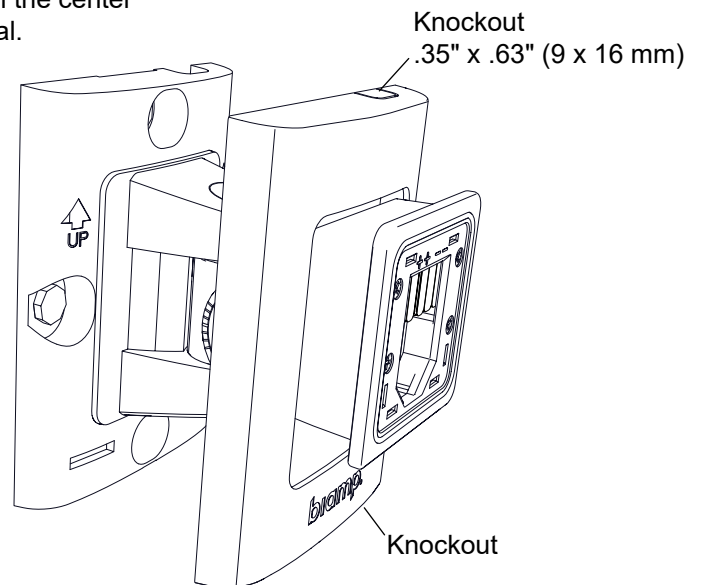

Figure 3. Before loudspeaker is attached fit the cover plate on the bracket and press into place
3. Once the wall is finished, the cover plate can be installed. Remove either knockout if needed for the wiring. Rotate the cover over the bracket arm and snap into place (Figure 3). A small screwdriver inserted in the center bottom edge of the plate depressing that tab will allow removal.